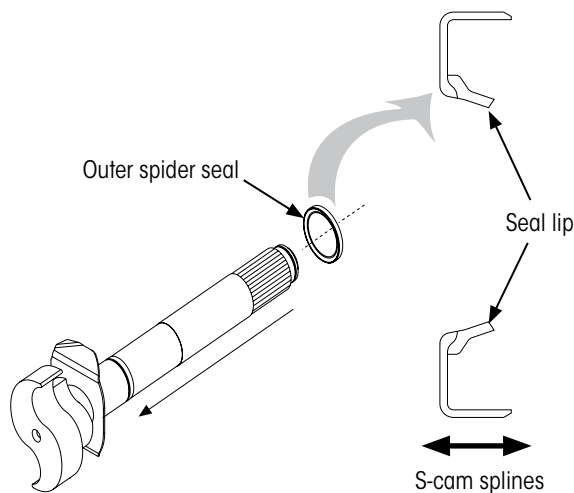

Figure 14: Installing the outer spider seal
5. **Slide** the spider seal onto the S-cam (Figure 14).
**IMPORTANT:** The lip of the inner spider seal must face inward, toward the S-cam splines (refer to Figure 14 on page 15 for seal orientation). This seal orientation directs any excess grease away from the brake shoes.